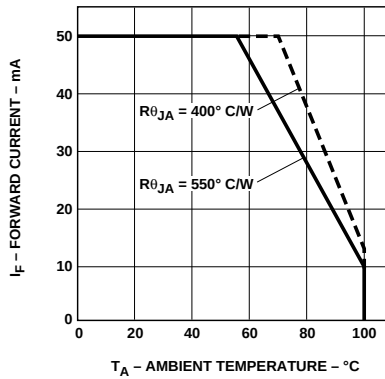

Figure 12. Maximum Forward Current vs. Ambient Temperature. Derating Based on T_J Max = 110°C .
- Derate linearly as shown in Figure 12.